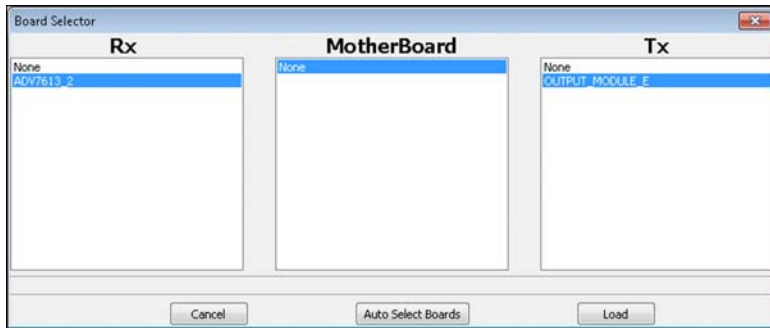

Figure 8. Choosing Boards in XRC
4. Select **Choose Board...**, **ADV7613_2** as the **Rx** and **OUTPUT_MODULE_E = ADV7511** as the **Tx** from the window shown in Figure 8, and click **Load**. It can take a while for the boards to load.